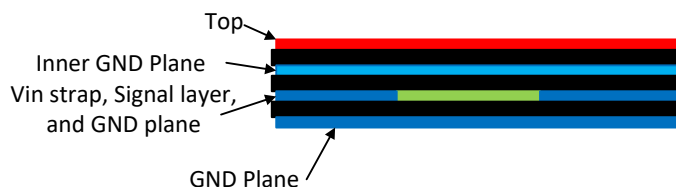

Figure 28. Example Layout for WQFN Package
1. **Place the input capacitor or capacitors as close as possible to the VIN and GND terminals.** VIN and GND pins are adjacent, simplifying the input capacitor placement. With the WQFN package there are two VIN/PGND pairs on either side of the package. This provides for a symmetrical layout and helps minimize switching noise and EMI generation. A wide VIN plane must be used on a lower layer to connect both of the VIN pairs together to the input supply; see Figure 28.